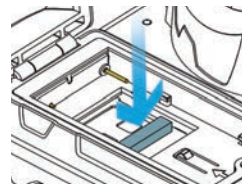

FIGURE 2
- 4 Press the SD gate down firmly (Fig.2)